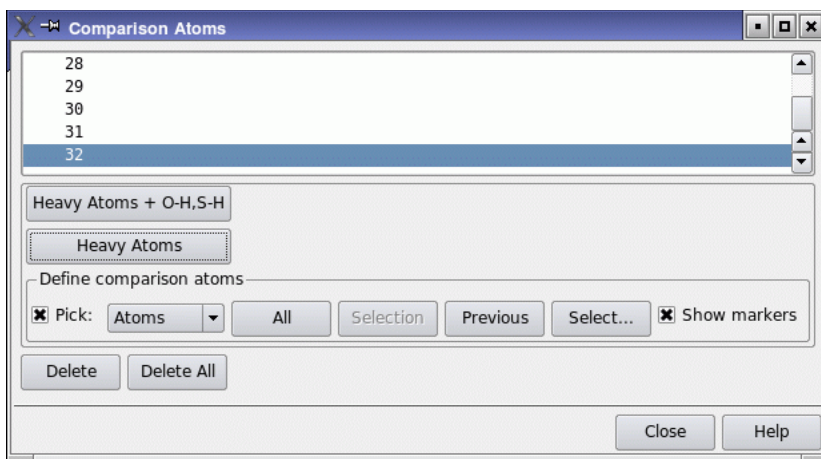

Figure 4.2. The Comparison Atoms panel.
- From the Search variables option menu, choose Comparison Atoms, then click Edit, to open the Comparison Atoms panel (see Figure 4.2).